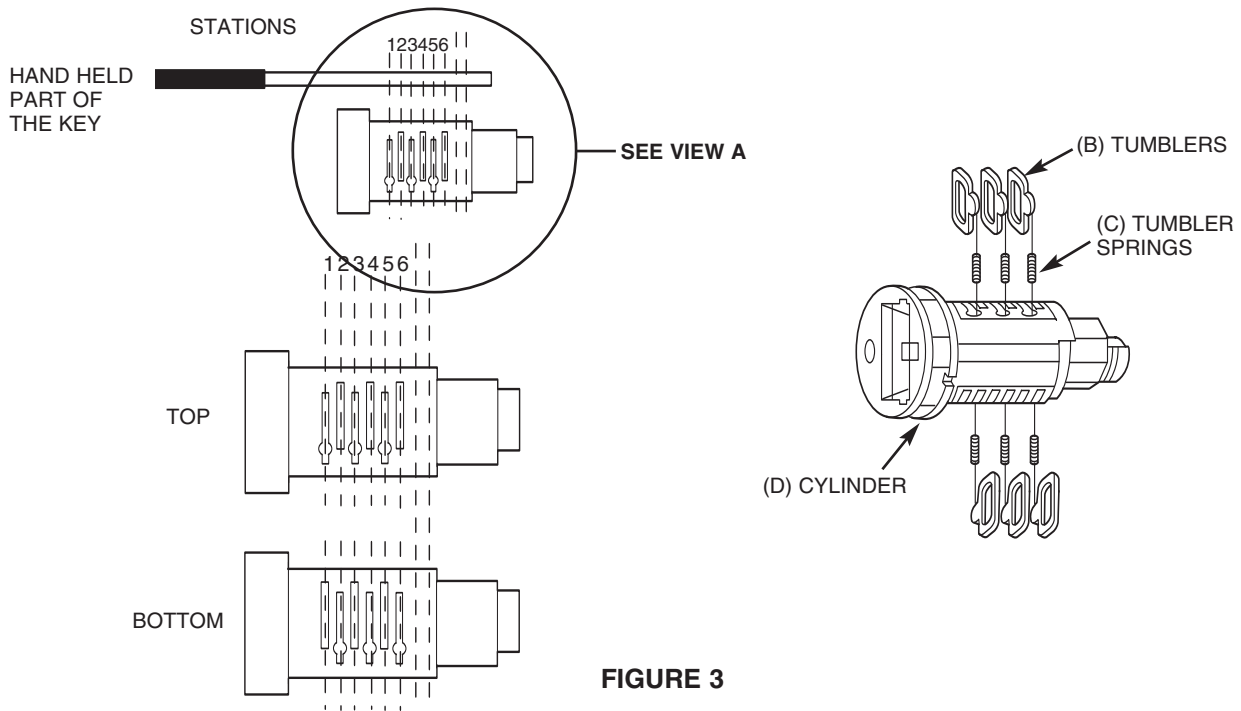
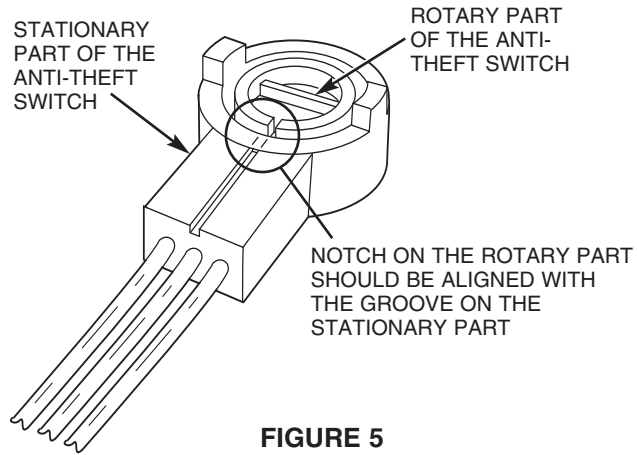

FIGURE 3
FIGURE 5
2. Insert the detent spring (I) into groove located on the interior surface of the lock case (F).
3. Insert the detent pin (J) into the groove located on the interior surface of the lock case (F).
4. Insert the shutter spring (L) into the round hole at the front of the lock cylinder (D) and the shutter assembly (K) into the rectangular depression located at the front of the lock cylinder (D).
5. Select the required tumblers (B) according to the key cut depths, for key stations 1, 2, 3, 4, 5 and 6. For example, if the key cut depths codes are 53214124, then use B5 for Station 1, B3 for Station 2, B2 for Station 3, B1 for Station 4, B4 for Station 5, etc. Stations 7 and 8 are not used.
6. Insert one (1) tumbler spring (C) into each of the holes located at the end of the tumbler slots on the lock cylinder (D) sub-assembly.
7. Insert the required tumblers (B) into tumbler slots in the proper orientation (refer to Figure 3) and in the sequence that match the key cut depths, for key stations 1, 2, 3, 4, 5 and 6.
8. Insert the key into the keyhole and verify that all tumblers (B) are flush with the lock cylinder (D) sub-assembly's exterior surface.
9. With the key in the lock cylinder (D) sub-assembly, apply the included grease (E) to the tumbler slots.
10. With the key in the lock cylinder (D) sub-assembly, insert the lock sub-assembly into the lock case (F).
11. Rotate the lock cylinder (D) sub-assembly within the lock case (F) at least ten (10) times so that the grease applied to the tumbler slots is distributed along the inner surface of the lock case (F) and the exterior surface of the lock cylinder (D) sub-assembly.
12. Position the key in a vertical orientation and remove the key from the lock cylinder (D) sub-assembly while keeping the lock cylinder (D) sub-assembly within the lock case (F).
13. Place the shutter cover (H) over the lock case (F) and the lock cylinder (D). Use a pair of small pliers to gently bend the four (4) tabs on the shutter cover (H) inward toward the center of the lock case (F) to secure the lock cylinder (D) within the lock case (F).
15. If the original lock contained a switch, be sure the rotary and the stationary parts of the anti-theft switch are properly aligned. Look at the side of the switch that is facing the lock. Locate the notch on the rotary part of the switch. This notch should be aligned with a thin groove located on the stationary part of the switch near the wires of the switch. Assemble the anti-theft switch on the back of the lock in the orientation recorded in steps A and B above. When assembling the anti-theft switch to the lock, do not rotate the rotary part of the anti-theft switch with respect the stationary part of the anti-theft switch or vice versa (refer to Figure 5).